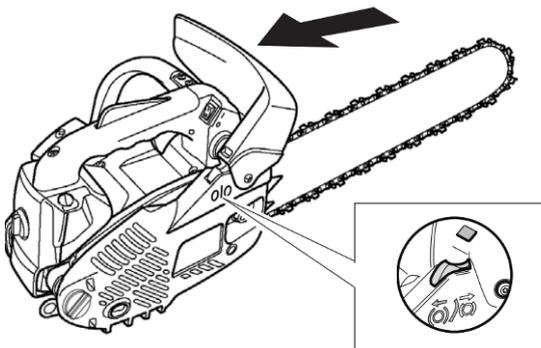

Fig.26
8) Pull the chain brake lever towards the handles to release the chain brake (Fig.26).